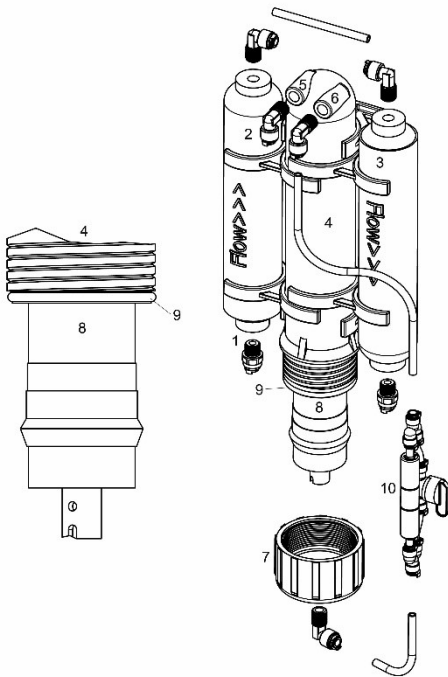

Fig. 1:
The connections of the unit are (please refer to Fig. 1):
Remove the screw cap of the module housing (Fig. 1, No. 4). Take the membrane out of the plastic bag and put it into the reverse osmosis module. Take care to insert the membrane in the right direction (Fig. 2, No. 2) with both sealings (Fig. 2, No. 1) directed to water outlet. The membrane has to be pushed forward until the 2 sealings are in the right position at the top and the pure water sealing (Fig. 2, No. 3) is fixed. Before the housing can be closed, check whether the O-ring (Fig. 1, No. 9) is mounted on the module's housing.
- **Rinsing:** For rinsing the membrane, the flush valve (Fig. 1, No. 10) has to be opened (tap parallel to the direction of flow). Then, the water flows at full speed through the reverse osmosis module and flushes most contamination and residues. The tap has to be closed again for the osmosis water production (tap across the direction of flow). This should be done after each production of osmosis water for 5 minutes (dependent on contamination and produced quantity of osmosis water). Afterwards, the flush valve can be re-mounted and the unit is ready for next production. By rinsing the membrane, possible deposits in the membrane are avoided and thus, the life span of the membrane is extended.